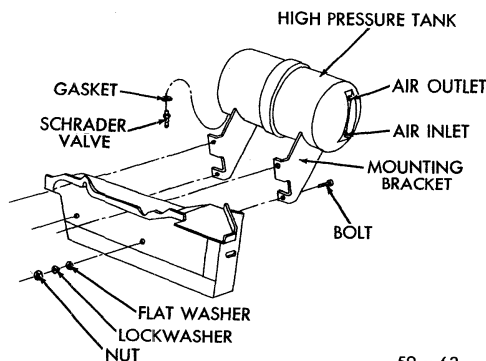

Fig. 12 — High Pressure Tank (Models MC-1, 2 and 3)
**HIGH PRESSURE AIR TANK (Figs. 12 and 13)**